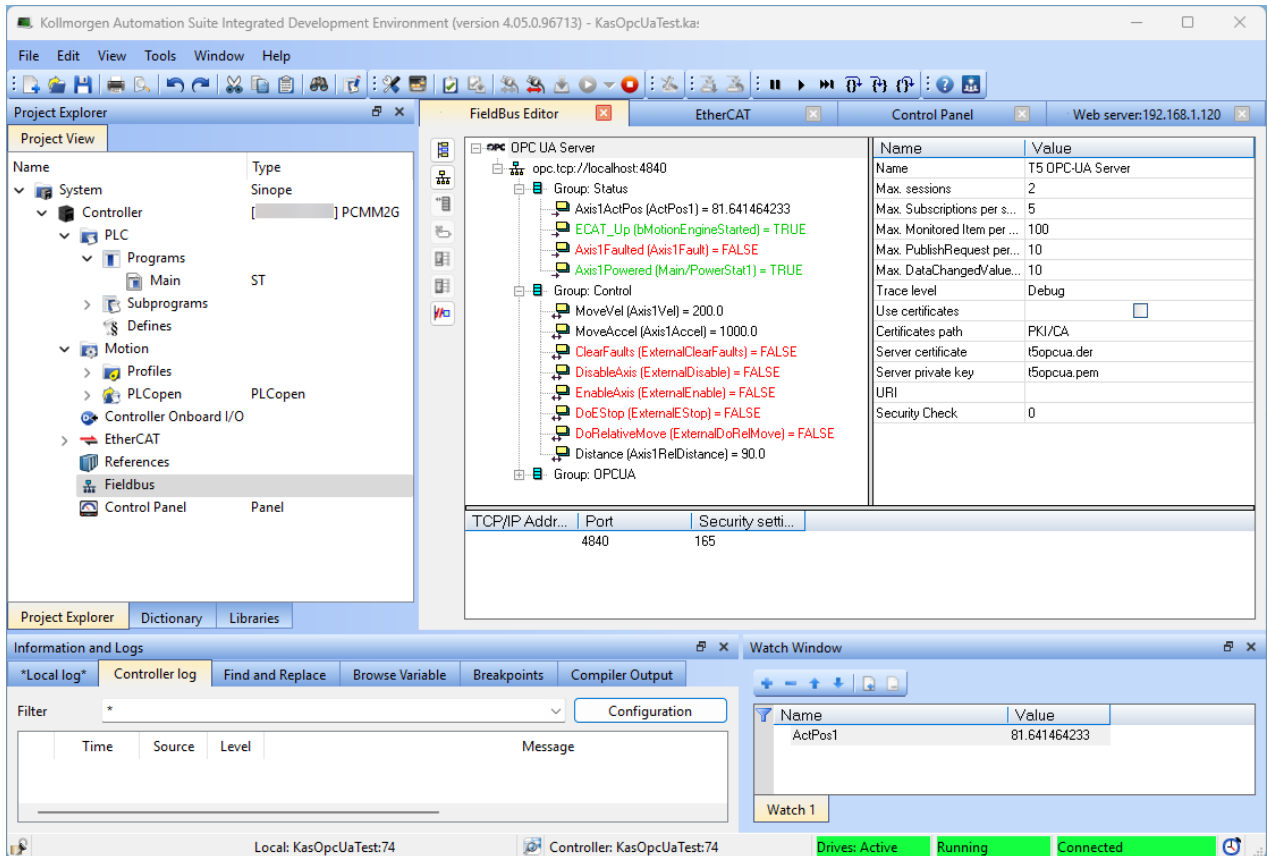

Figure 3-18: KAS Fieldbus Editor
11. Navigate to the OPC UA Server Fieldbus Editor. (Figure 3-18)